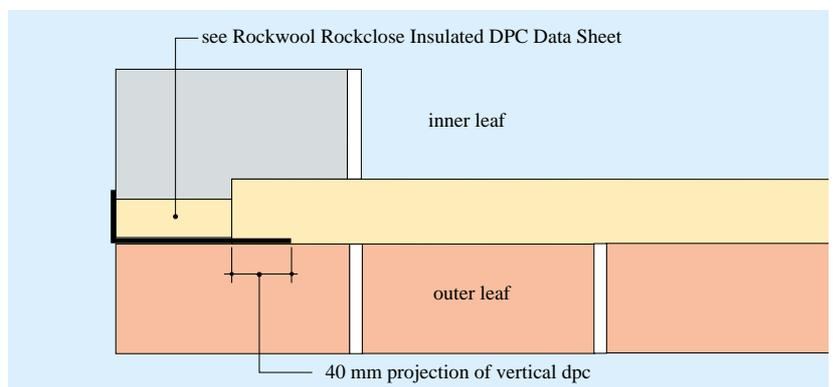

Figure 4 Vertical DPCs
- 7 Vertical DPCs at wall openings should project at least 25 mm into the cavity (Figure 4). See Rockwool Data sheet 027 for details of the Rockclose insulated cavity closer.